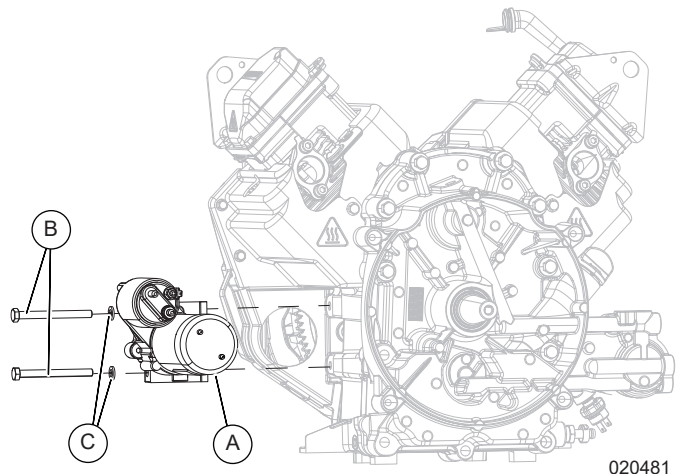

Figure 12-21. Install Starter onto Crankcase
1. See Figure 12-21. Install starter (A) onto crankcase with two fasteners (B) and two lock washers (C). Align teeth on starter with teeth on flywheel.